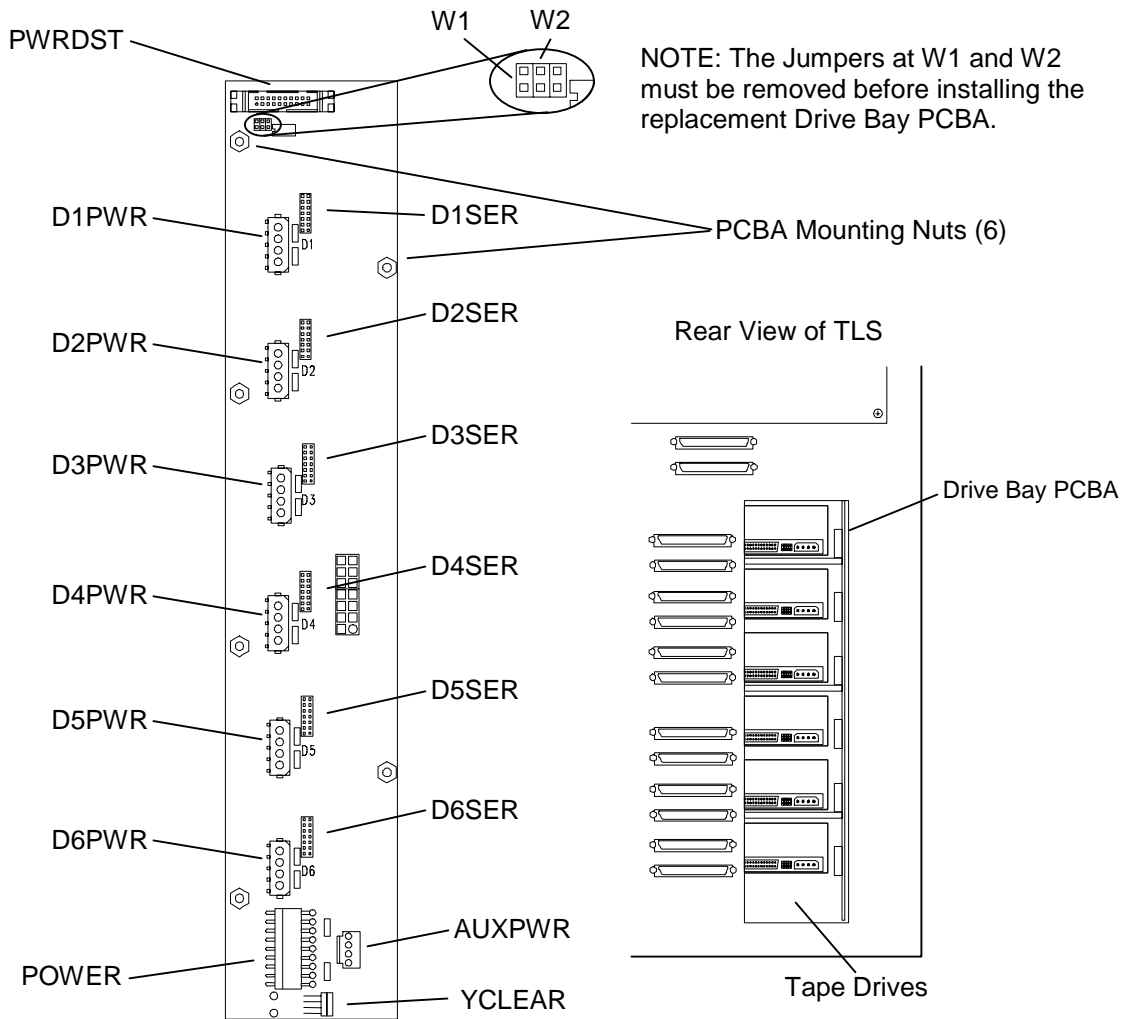

Figure 7-40 The Drive Bay PCBA
3. Disconnect all the cables from the Drive Bay PCBA (Figure 7-40).
4. Using a stubby/short 1/4-inch nutdriver, remove all six Drive Bay PCBA mounting nuts (Figure 7-40).
1. Remove the jumpers at W1 and W2 on the Drive Bay PCBA (Figure 7-40).
5. Reconnect all the cables to the Drive Bay PCBA (Figure 7-40).